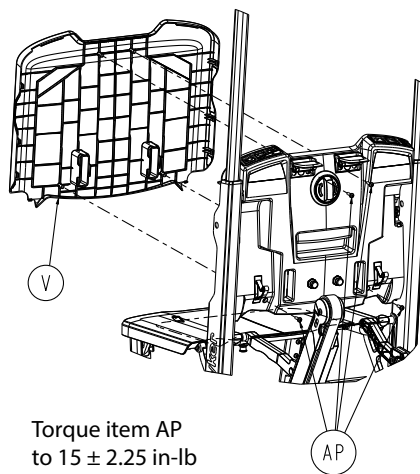

Figure 43 – Remove the seat cover
9. Using a T25 Torx driver, remove the four pan head thread forming screws (AP) that secure the backrest cover (V) to the chair frame (Figure 43). Save the screws.